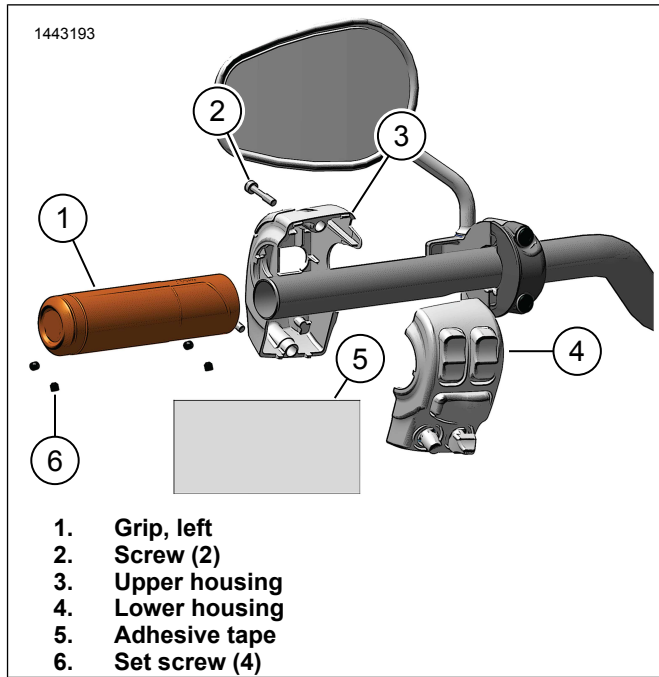

Figure 2. Left Hand Grip
1. See Figure 2. Remove the left switch housing. See the service manual.